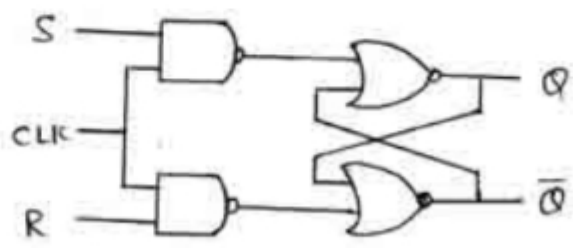

Fig 2
2) Construct the TT for the circuit shown in fig 2